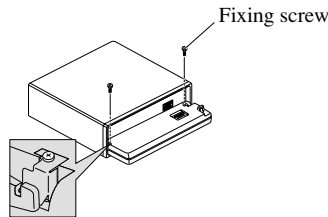

Fig. 13
3. Fix the front panel to the unit using fixing screws. (Fig. 13)